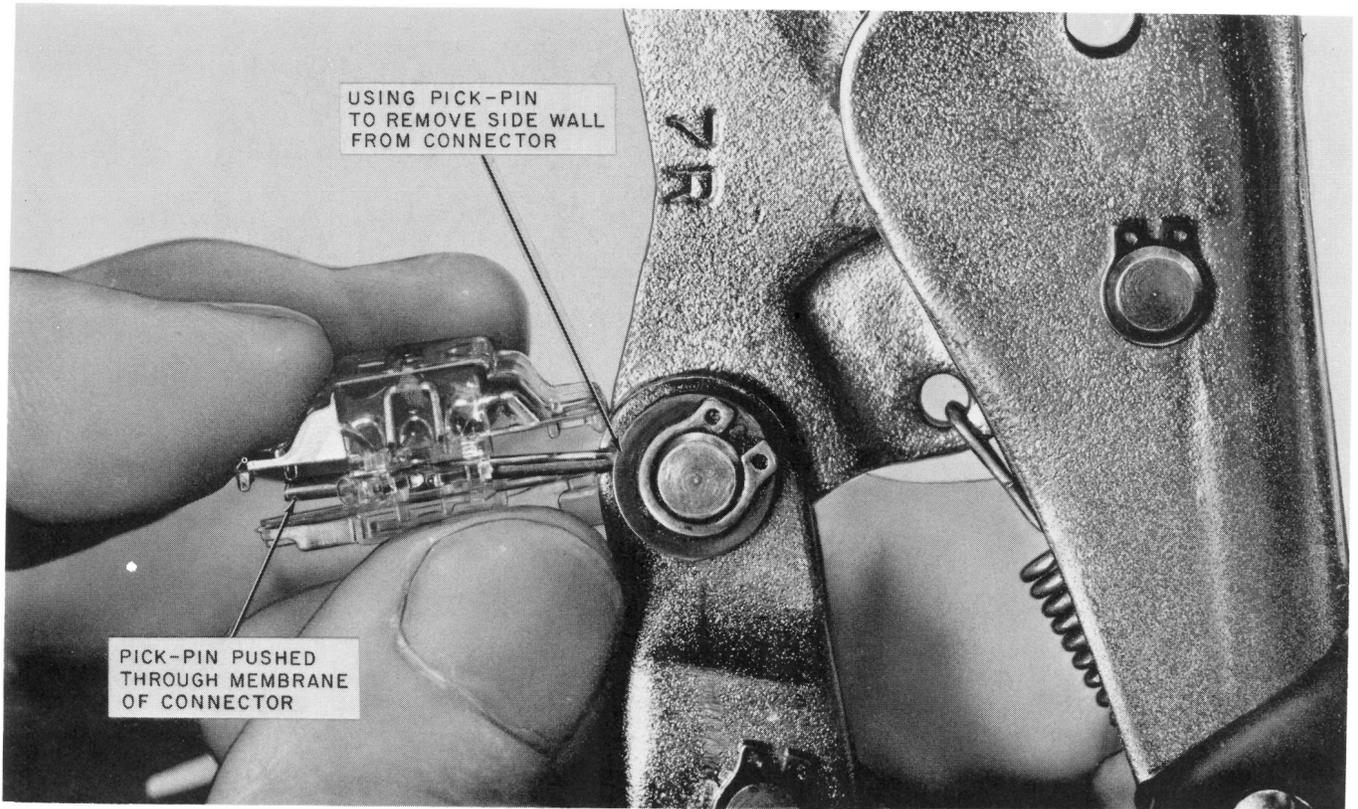

Fig. 4—Removing Sidewall to Open Through Slot
- (b) A pick pin for removing the sidewall of the 700-type connector body (Fig. 4).